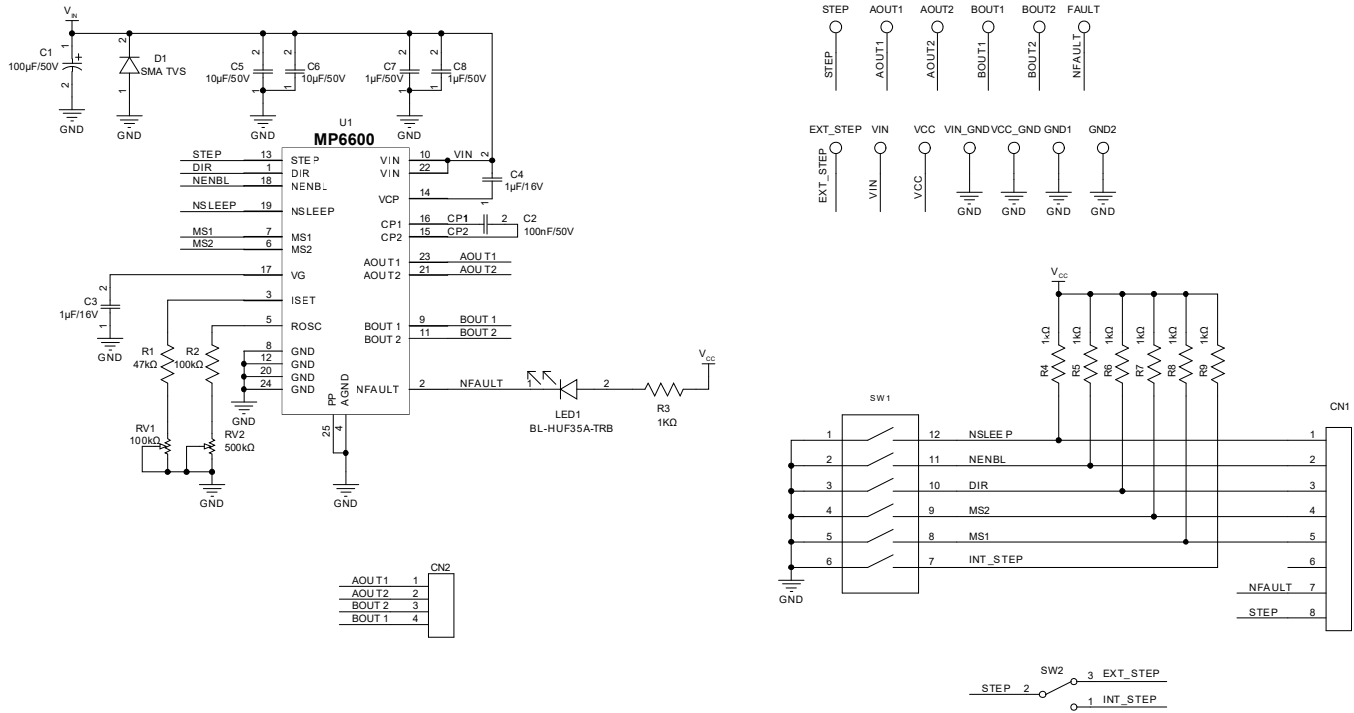

Figure 1: Evaluation Board Schematic
2. Switch SW2 to the top side (see Terminal 3 in Figure 1 on page 3) to enable the external step signal input from the EXT_STEP connector.